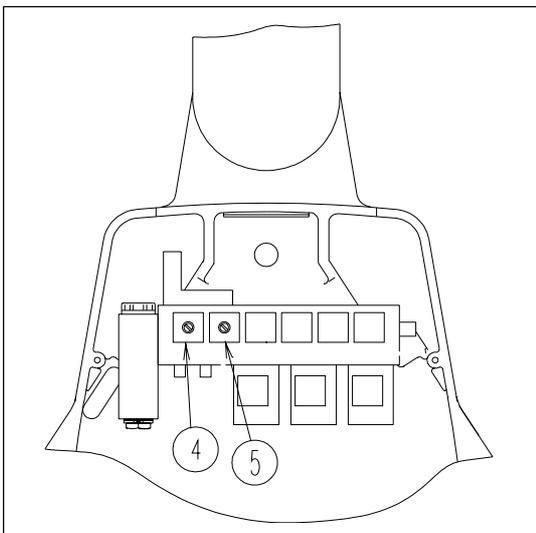

Figure 12. Bridge without cover.
- 9) When required: Lift the instrument suspensions and remove the bridge cover to adjust the syringe water flow using needle valve (4) and the air flow using needle valve (5), see Fig. 12.